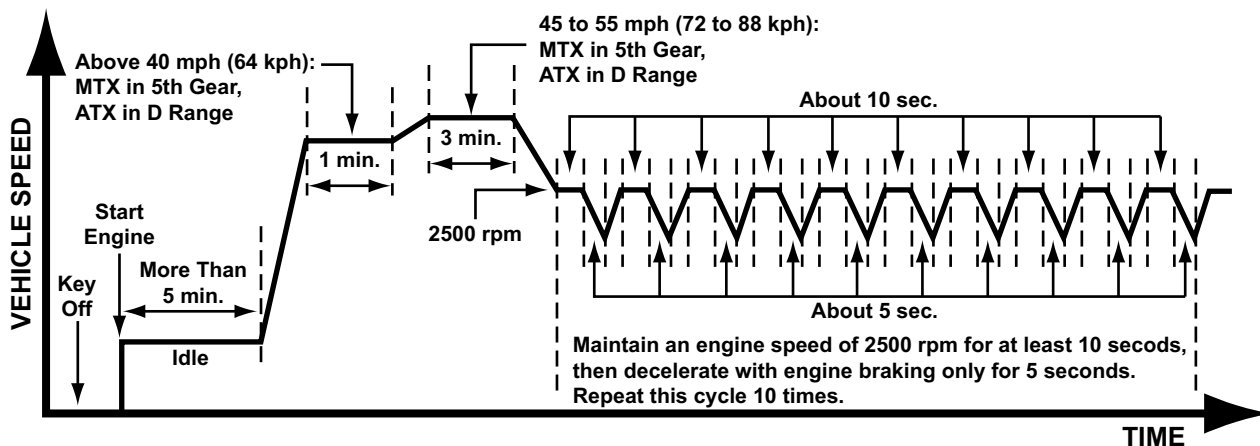

Figure MA000-25
3. Drive the vehicle as shown in Figure MA000-25.